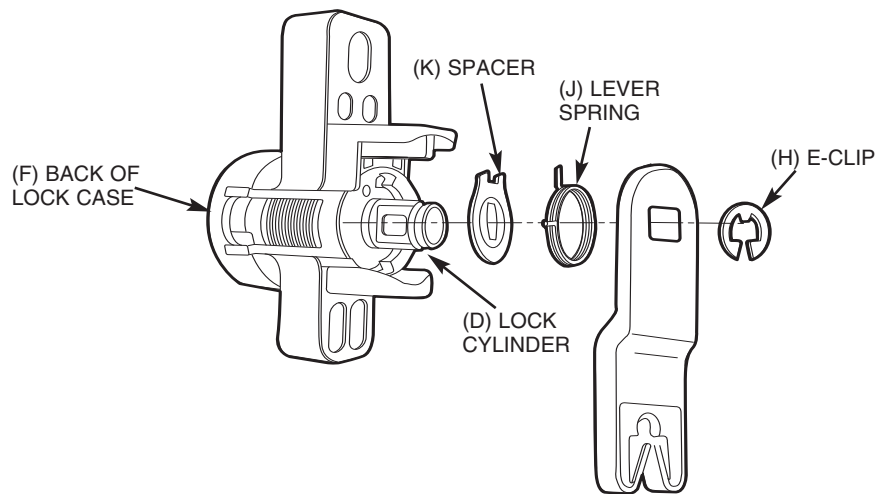

FIGURE 4
- A.** Before the lock is removed from the installed location, record the orientations of the lock lever and anti-theft switch (if so equipped - Mustang). If the lock is in its normal position, note the direction at which the lever is pointing (forward, rearward, upward or downward of the vehicle). If the lock is not in its normal position, look at the back of the lock cylinder sub-assembly and note the direction at which the lock lever is pointing with respect to the drainage hole located at the bottom of the lock case (F). Note also the offset of the lever (refer to Figure 4).
- B.** Carefully remove the E-clip (H) and disassemble the lock lever, return spring (J) and white spacer (K). Keep the E-clip (H), and lever, anti-theft switch and white spacer (K) (if so equipped) in a secured place until the new lock has been built and is ready to be installed in the vehicle.